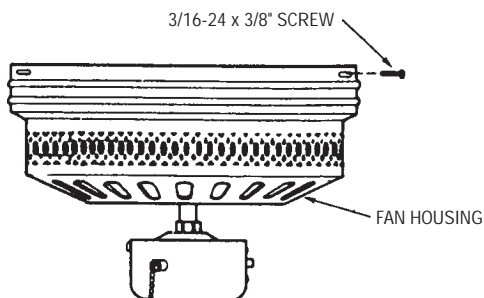

Figure 6
- 1. Align the four holes in the fan housing with the four holes in the mounting plate and install four 3/16-24 x 3/8" screws (supplied) (Figure 6).